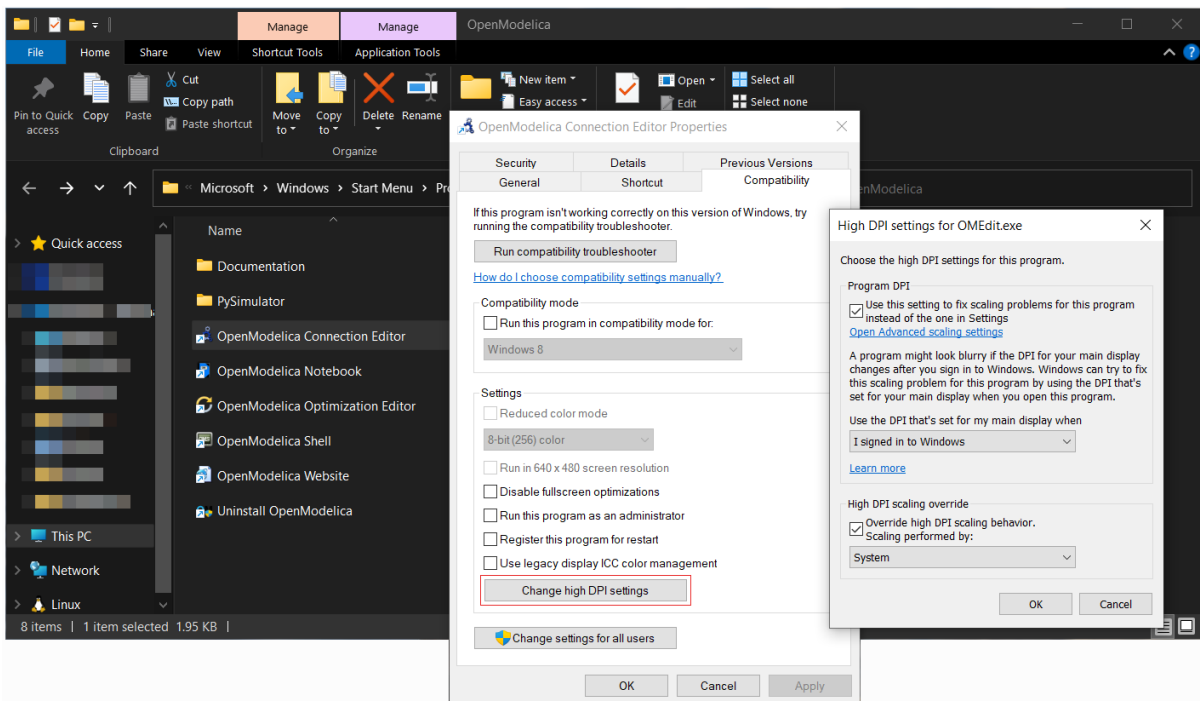

Figure 2.23: Change high DPI settings for OMEdit.exe
3. In the properties window go to tab *Compatibility* and open *Change high DPI settings*. In the *High DPI settings for OMEdit.exe* choose *Use the settings to fix scaling problems for this program instead of the one in Settings* and *Override high DPI scaling behavior*. *Scaling performed by:* and choose *System* from the drop-down menu, Figure 2.23.